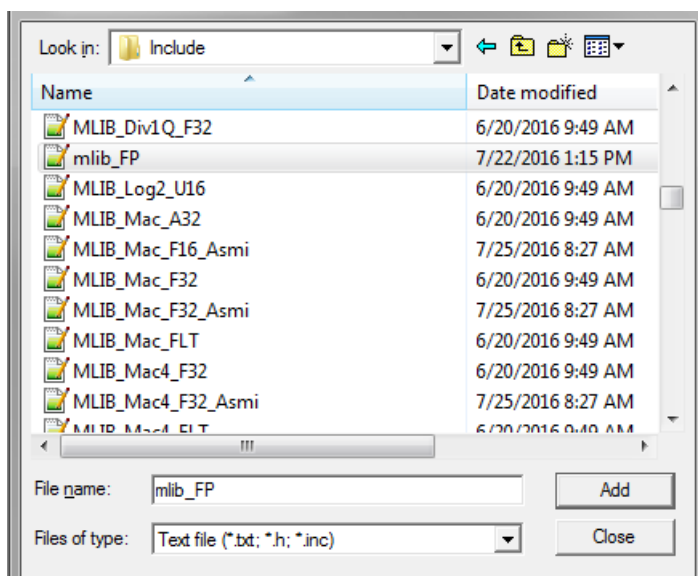

Figure 1-29. Adding .h files dialog
4. Navigate into the library installation folder C:\NXP\RTCESL\CM4F_RTCESL_4.6_KEIL\MLIB\Include, and select the *mllib_FP.h* file. If the file does not appear, set the Files of type filter to Text file. Click Add. See Figure 1-29.